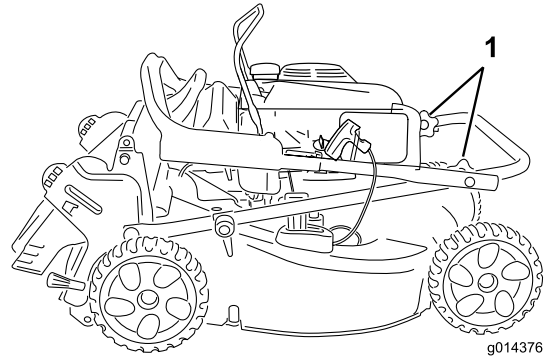

Figure 3
1. Loosen the upper handle knobs (Figure 3).
- Tighten the handle knobs firmly by hand (Figure 3).